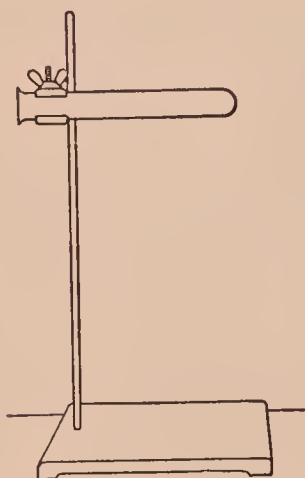

FIG. 3. — Apparatus for decomposing mercuric oxide
**APPARATUS.** — Test tube clamped to iron stand (Fig. 3). Bunsen burner.
in a horizontal position, shake it to spread the powder into a thin layer, and then clamp the test tube as in Fig. 3.